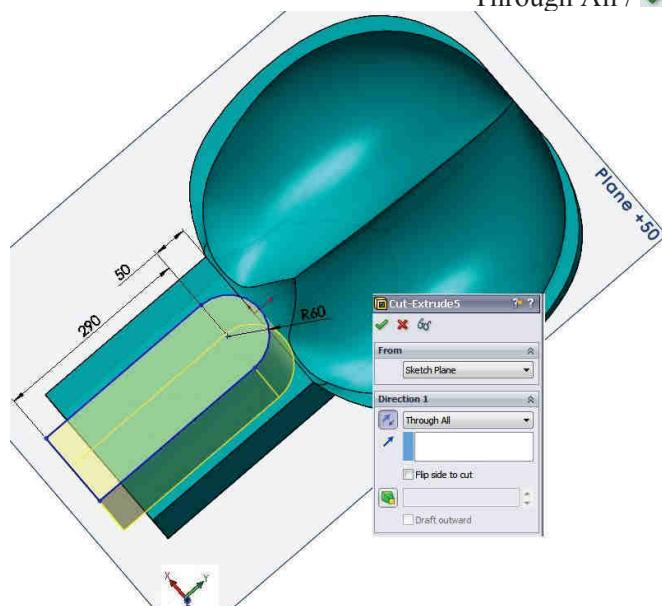

Fig. 3.18
**22 Schițare contur 290x50xR60:** comanda Sketch - Fig. 3.18 – Selectie plan +50 / Schițare contur 290x50xR60 / .
**22 Sketching of the 290x50xR60 contour:** the Sketch command - Fig. 3.18 – Select +50 Plane / Sketch the 290x50xR60 contour / .
**23 Creare decupare furcă – Extrudare contur 290x50xR60:** comanda Extruded Boss/Base  - Fig. 3.18 – Direction 1 – Through All / .
**23 Creation of the Taper Shank Offcut – Extrudation of the 290x50xR60 contour:** the Extruded Boss/Base  command - Fig. 3.18 – Direction 1 – Through All / .